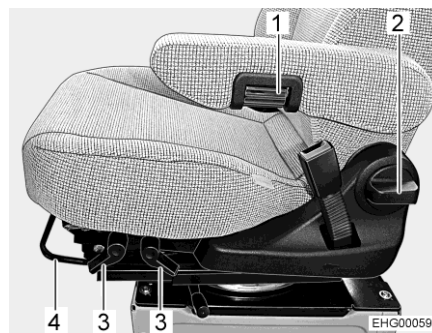

Fig. 17 Seat adjustment (Aguti GIS-Liner)
- Pull the bar (Fig. 17,4) upwards.
- Pull the respective lever (Fig. 17,3) upwards.
- Turn the handle (Fig. 17,2).
- Turn the knurled wheel (Fig. 17,1) for fine adjustments. The armrest inclines upwards or downwards, depending on the rotation direction.